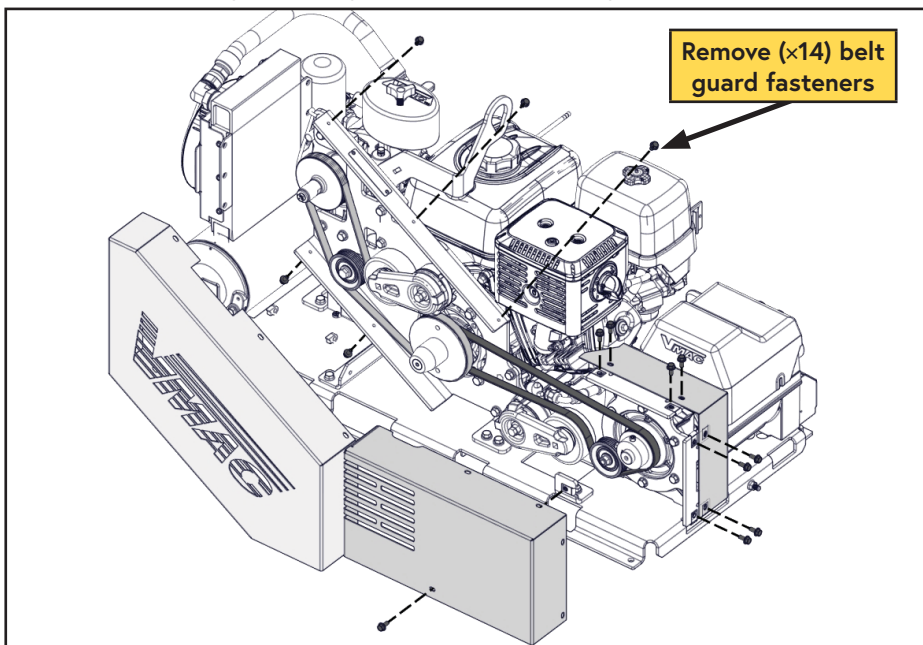

Figure 81 — Remove belt guards
- Remove the belt guard and generator rear cover (Figure 81).